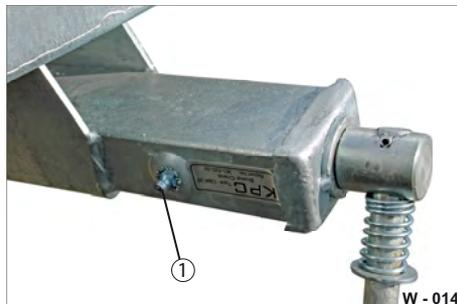

Fig. 14 Lubrication point
- ▶ Actuate the spindle parking brake several times and clean the lubrication points and the lubrication nipple carefully (Fig. 14/1) with a clean, dry cloth.